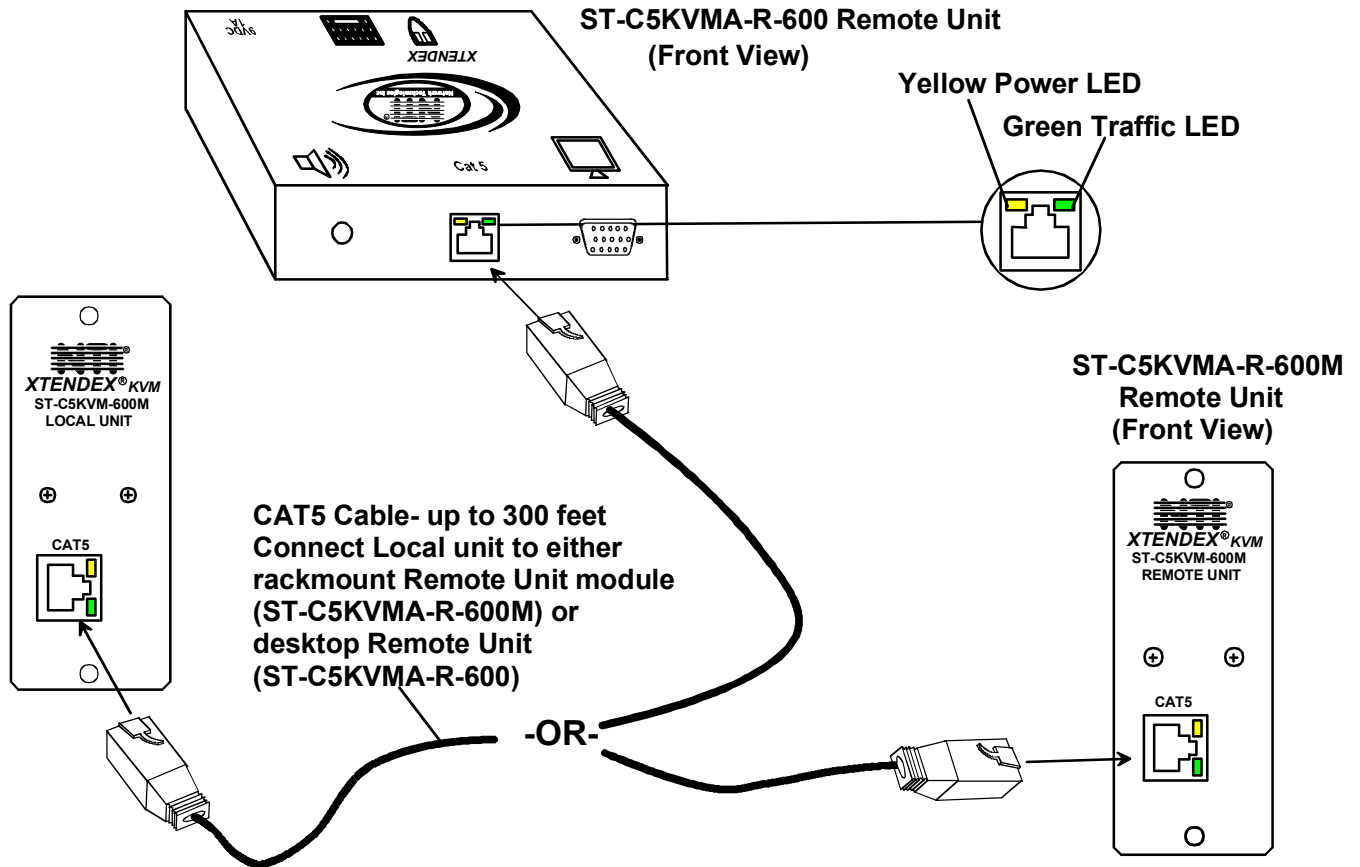

Figure 20- Connect the CAT5 cable between the Local and Remote Units
Connect the CAT5 cable to the “CAT5” port on the front of the Local Unit (see Figure 20). When properly inserted the cable end should snap into place. Connect the other end of the cable to the “CAT5” port on the Remote Unit.
4. Turn ON the CPU and monitor(s). The CPU and monitor(s) should each react as if they were directly connected to each other. The green "Traffic" LEDs on the Remote and Local Units (see Figure 20) should blink indicating there is proper communication between them.